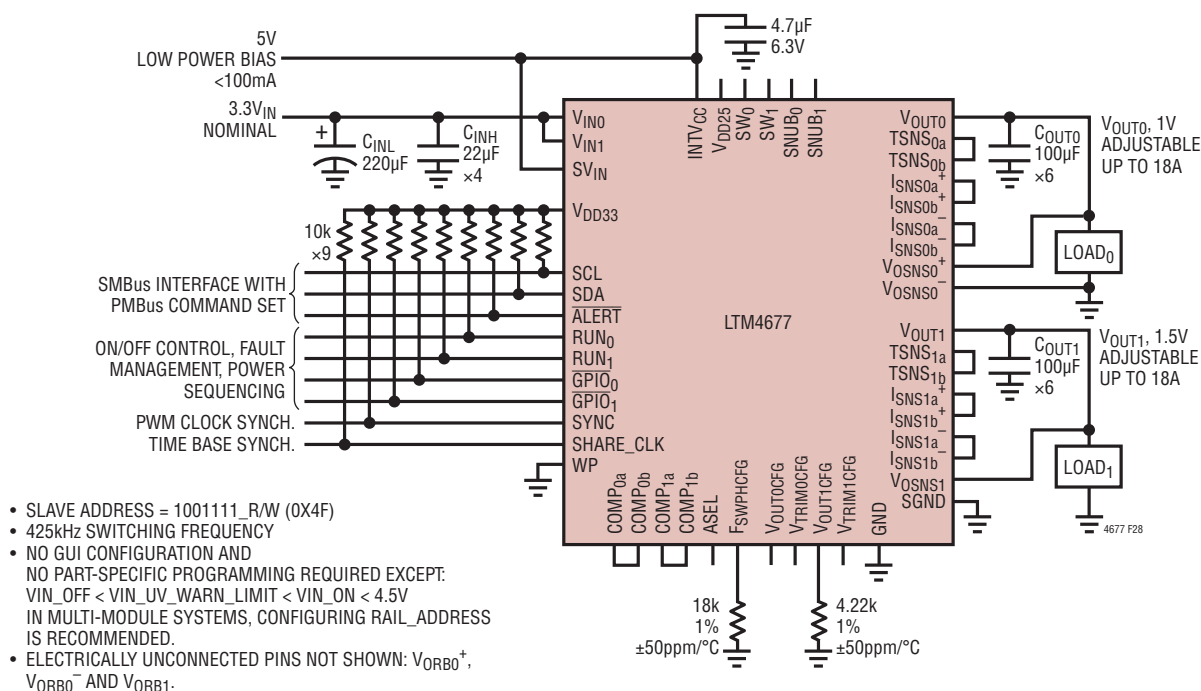

**Figure 26. Recommended PCB Layout Package Top View, Universally Accommodates LTM4677, LTM4676A, and LTM4675 Modules**
- Figure 26 gives a good example of the recommended layout.